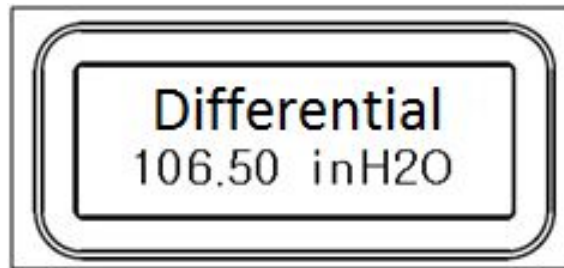

Figure 20 – ST 700 Standard Transmitter - Basic Display with Process Variable Format
Figure 20 illustrates the Basic Display format with Process Variable (PV).